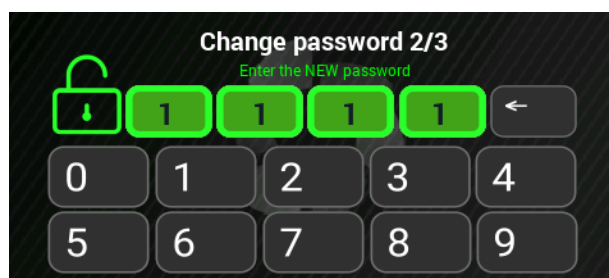

Figure 16-19: new password entered correctly.
- The screen confirming that the password has been entered correctly appears (**fig.16-19**).